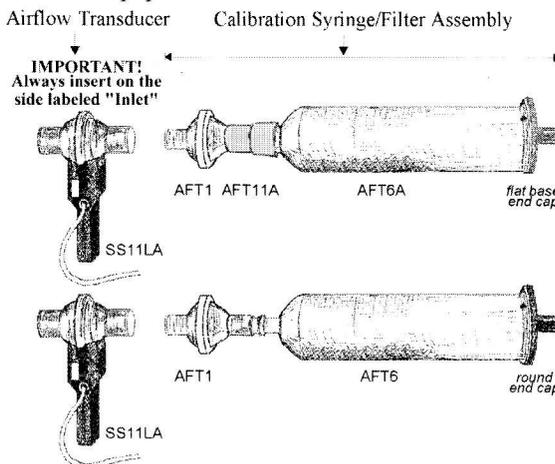

Fig. 12.12
- b.) Insert the Calibration Syringe/Filter Assembly into the airflow transducer (Fig. 12.12).
Hold the syringe assembly as shown in Fig. 12.12 above.